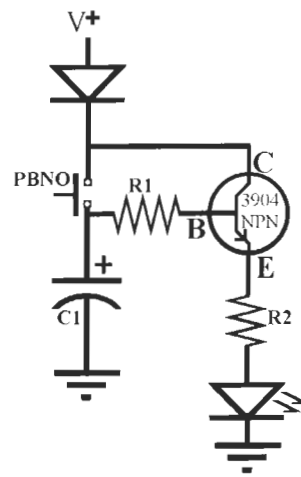
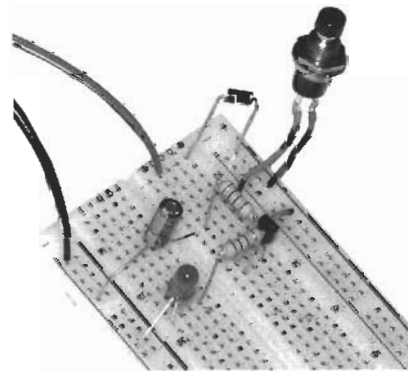

Figure L9-7
Figure L9-8
You have used the capacitor to store small amounts of electricity. It powered the LED directly, but could only do that for a brief moment. Here, we use the capacitor to power the transistor. Again, you need to note the similarity between the schematic in Figure L9-7 and the way the circuit is pictured on the solderless breadboard in Figure L9-8 (see also Table L9-1).
**Table L9-1** Parts list for Figure L9-8